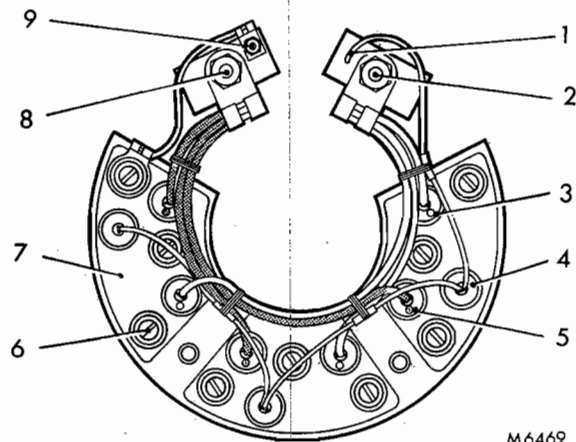

FIG. 2. HEAT SINK RENEWAL
10. Check each diode in the assembled heat sinks (see Fig. 2) using a 44 or 48W test light connected in series with a probe in the positive line of a 24V supply and a second probe connected to the negative line of the supply. The following diagnostic testing chart will indicate defective diodes:
NOTE: The main diodes are identified by coloured spots; diodes with a red spot must be connected to the main output terminal and diodes with a black spot must be connected to the negative main output terminal (see Fig. 2).